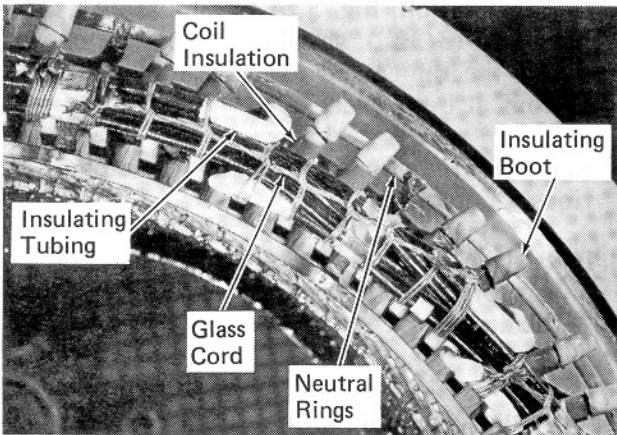

Fig. 5 - Wiring Insulation
18. Slip insulating boot over the brazed joint and over the ends of the sleeving on the coil leads. The boot must cover a minimum of 6.4 mm (1/4") of the lead sleeving, Fig. 5.